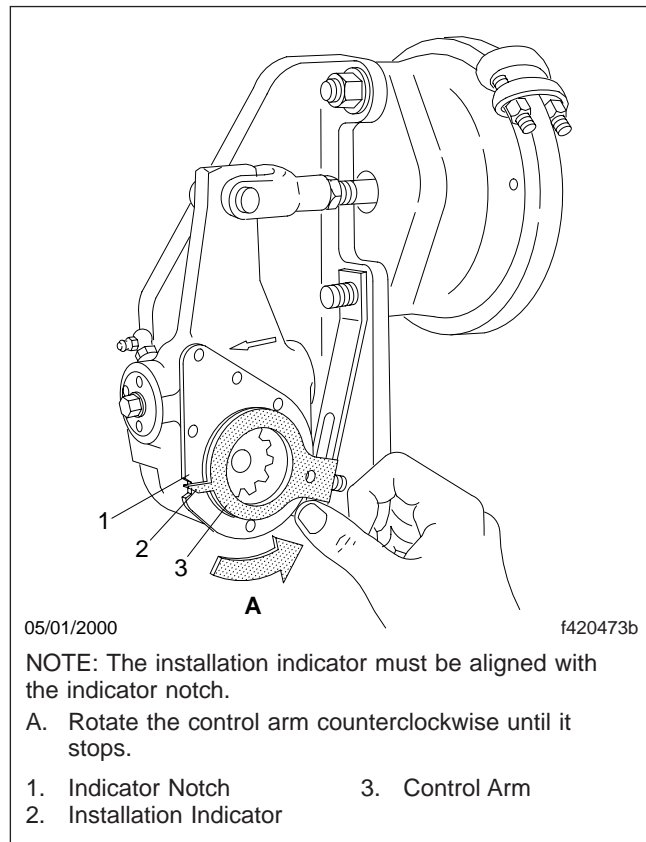

Fig. 3, Aligning the Control Arm
7. Rotate the control arm away from the adjusting hexnut toward the brake chamber until it comes to a definite internal stop. Make sure the installation indicator is in the center of the indicator notch on the slack adjuster. See **Fig. 3**.